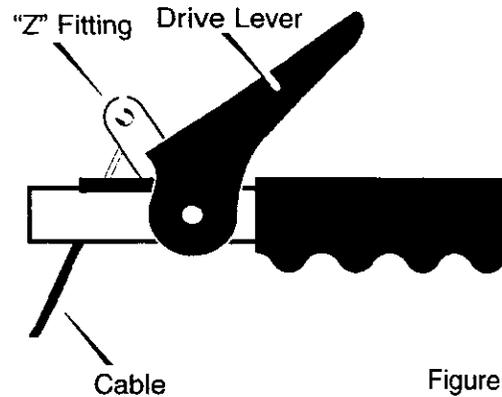

Figure 13
2. If the top of the cables have become disconnected from the **drive levers**, attach the cables to the **"Z" fitting**. See Figure 13.